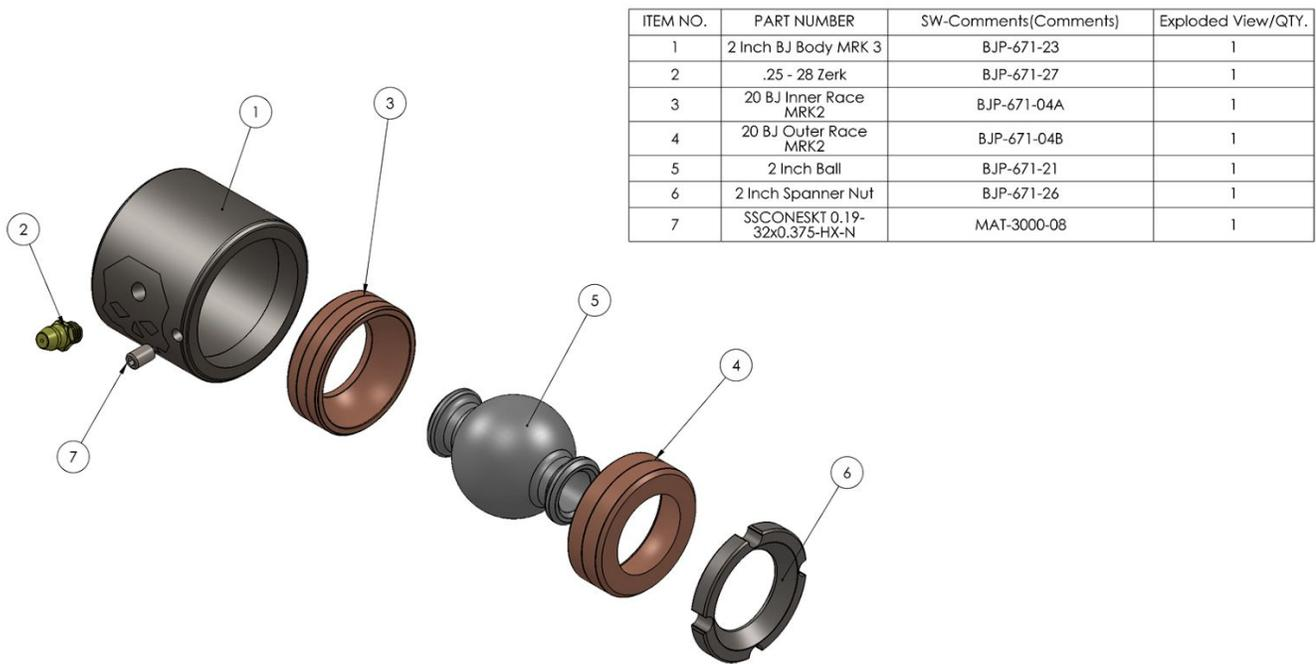

Figure 3.1 - Assembly
- See Figure 3.1 for proper install order of parts.